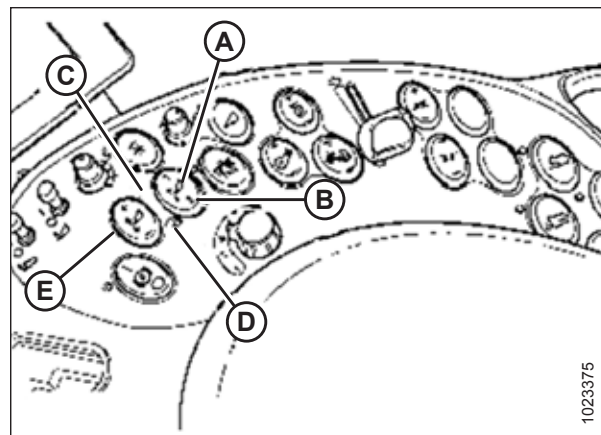

Figure 6.71: Case Combine Controls
You can adjust these set points by using FINE ADJUST switch (E) in Figure 6.71, page 127.